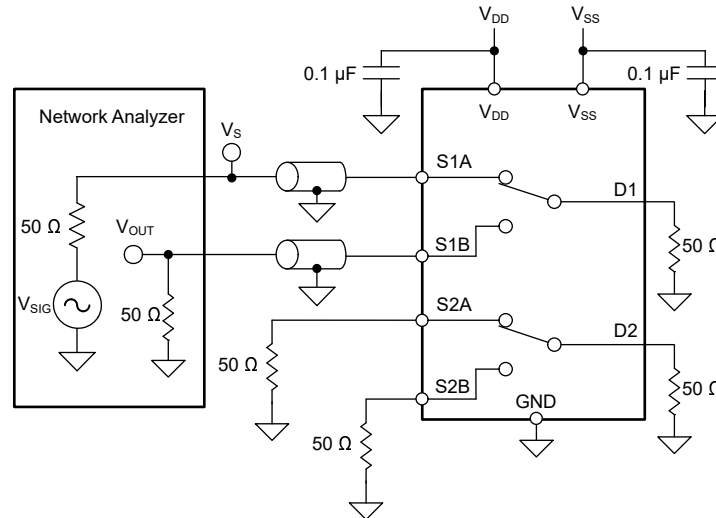

图 7-15. Intra-Channel Crosstalk Measurement Setup
1. Intra-channel crosstalk ($X_{\text{TALK(INTRA)}}$): the voltage at the source pin (S_x) of an off-switch input, when a 1- V_{RMS} signal is applied at the source pin of an on-switch input in the same channel, as shown in 图 7-15.